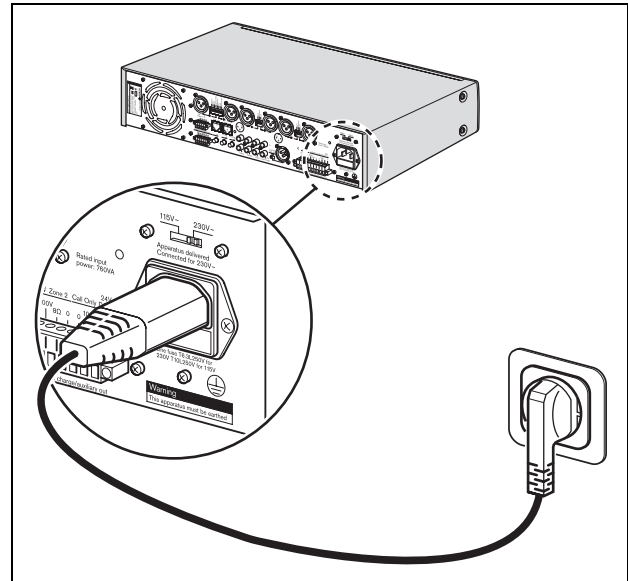

figure 5.1: Voltage selector
- 1 Make sure the voltage selector (115V/ 230V) is correctly set for the country's main voltage (see figure 5.1).